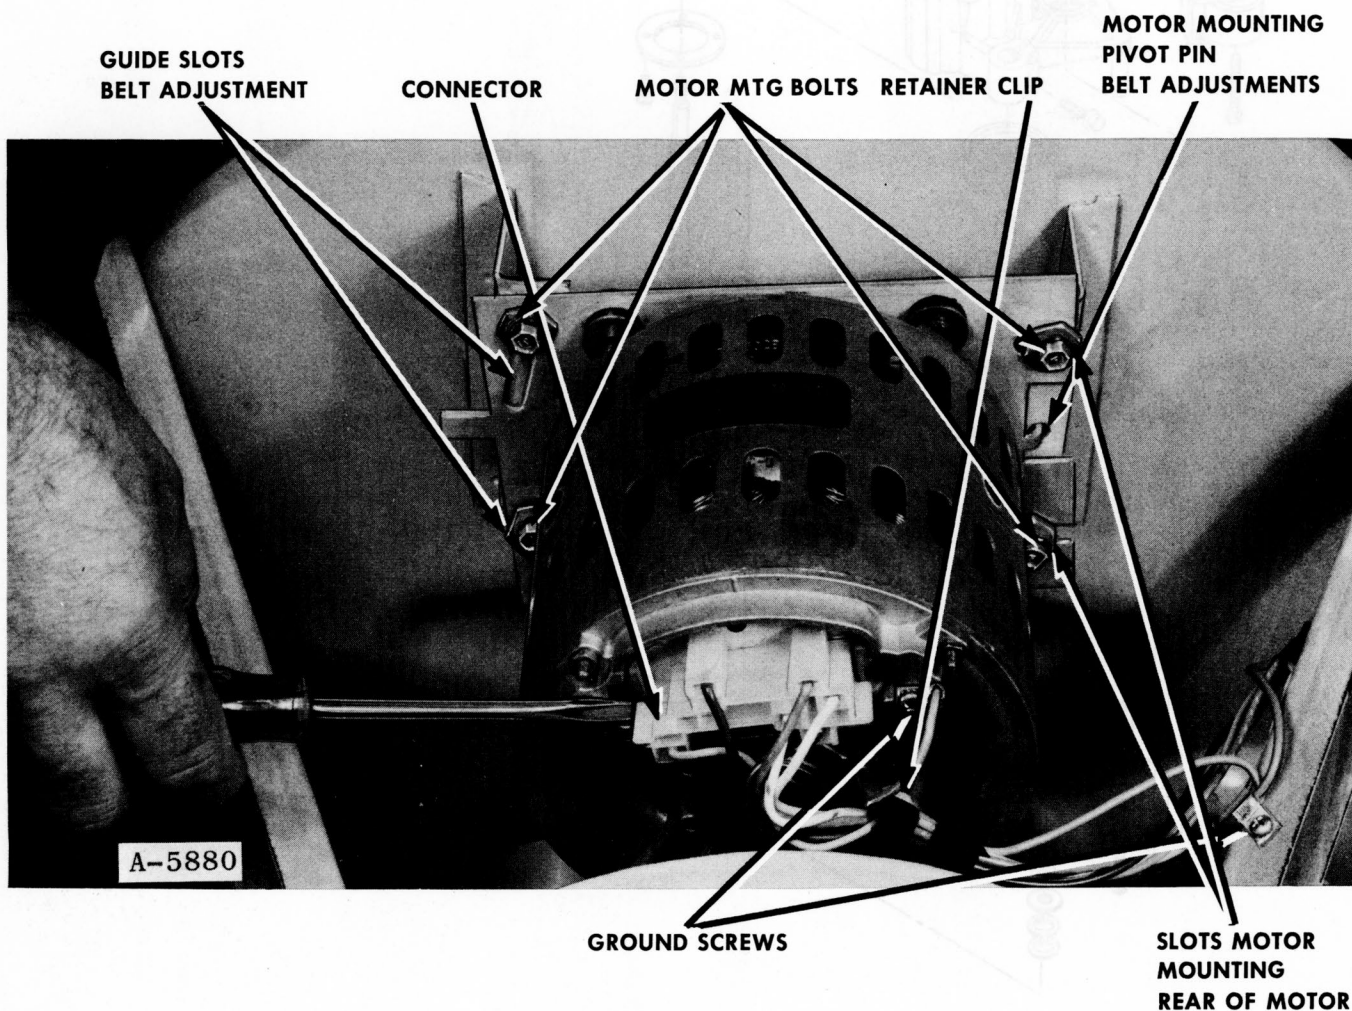

Figure 92
1. Remove the wiring harness connector, harness retainer clip and ground wire from the motor, Figure 92.